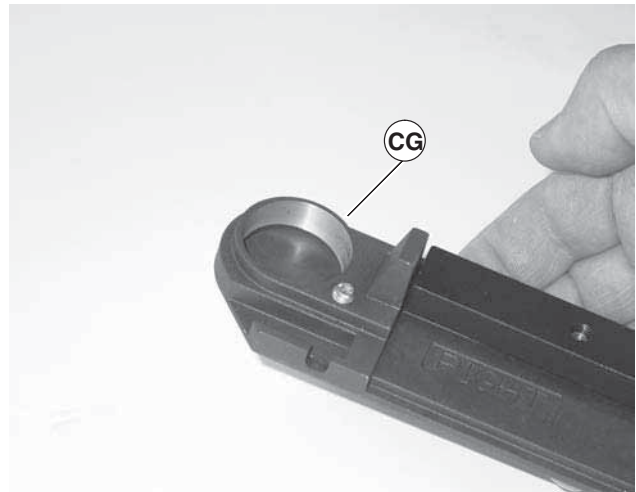

Figure 50
1. Inspect the head plates bearing seating surface (Figure 50, item CG). If they are worn or damaged, replace the head. See "Service Parts" section, page 33 to page 36.